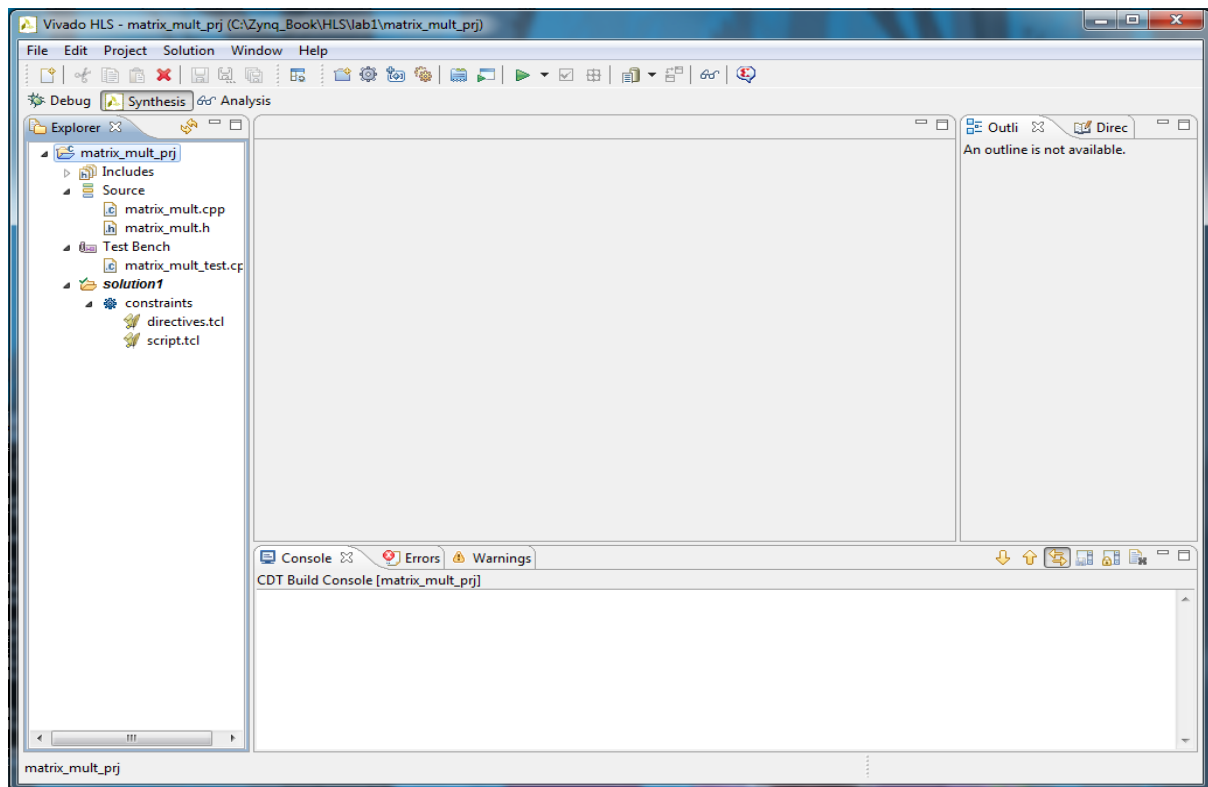

Figure 3.4: Synthesis view in the workspace
- (i) The project will be generated and the workspace will open in **Synthesis** mode for the generated project and solution as in Figure 3.4.